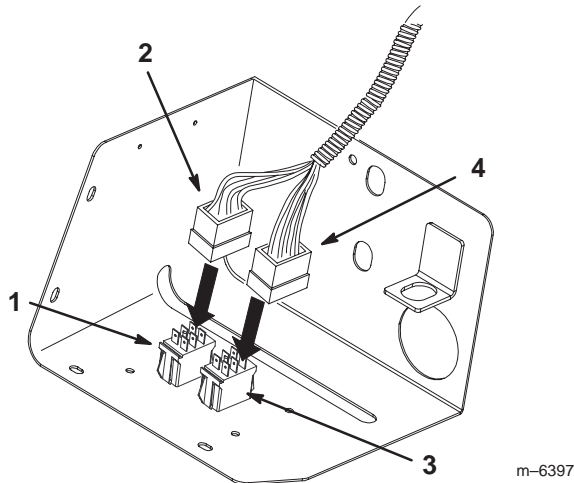

Figure 25
- 13.** Connect the connector with mostly green and yellow wires to the spray selection switch (toggle style switch) (Fig. 25).
- 14.** Connect the connector with the multi-colored wires to the rate control switch (momentary switch) (Fig. 25).